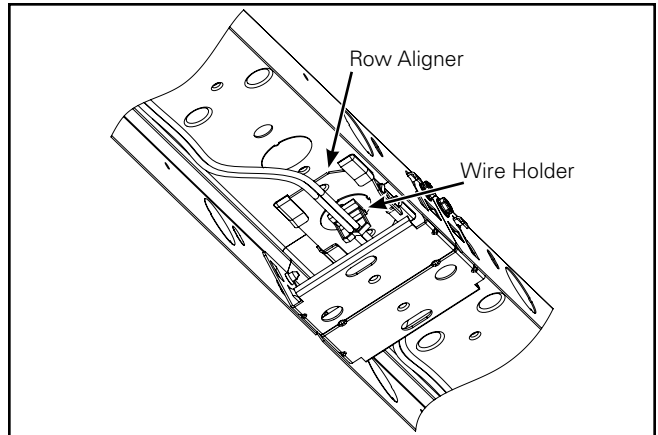

Figure 5.
5. Insert harness into wire holder if applicable (Figure 5.).